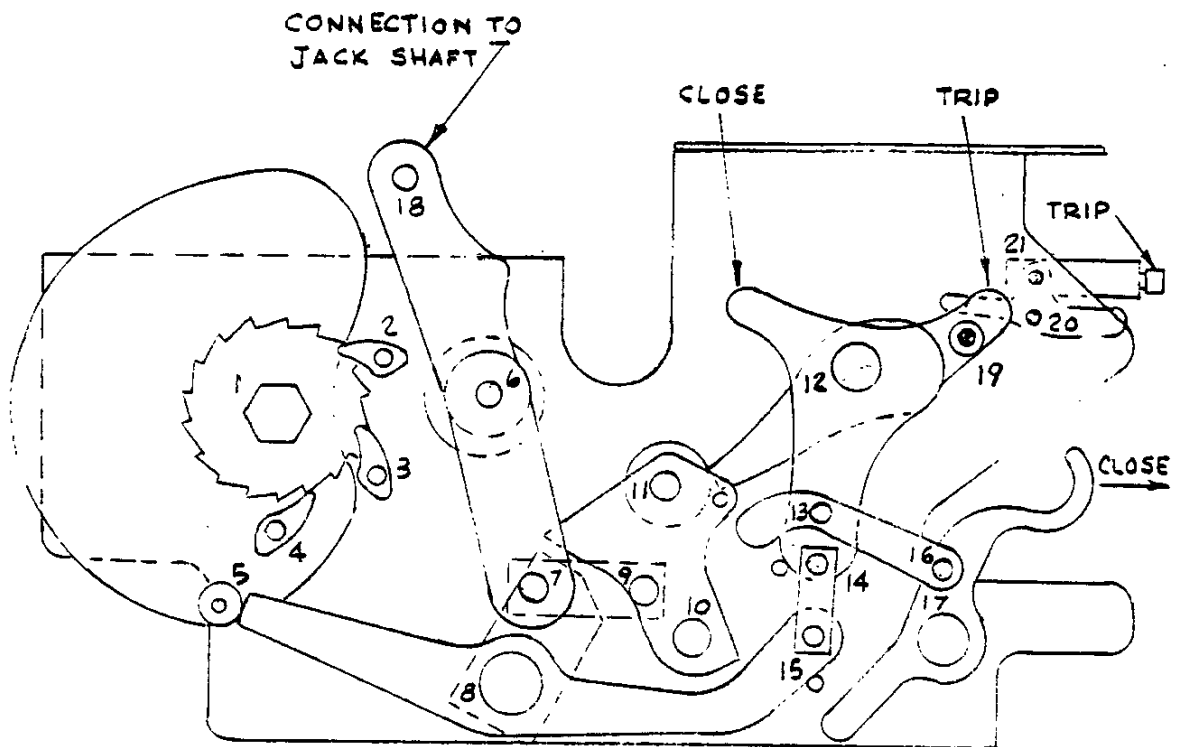

FIGURE E-2
9. Major operating mechanism lubrication points (21) are the shaded pivot areas shown in Figure E- 2